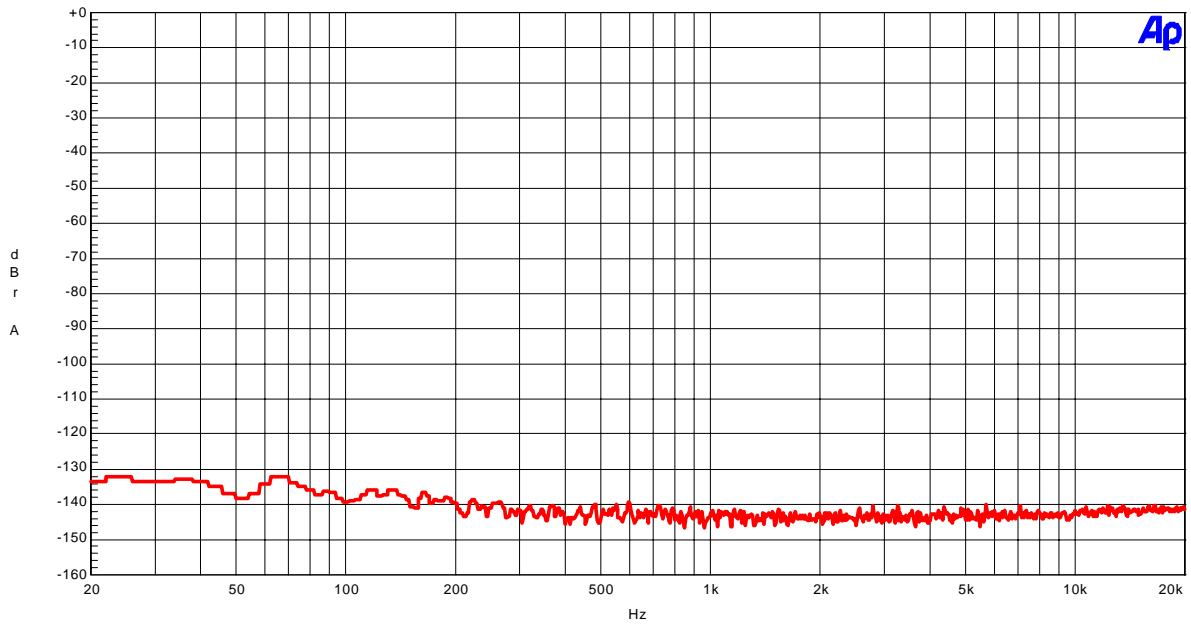

Figure 13. FFT (noise floor: fs=44.1kHz; no signal input)
- Figure 13. FFT (noise floor)